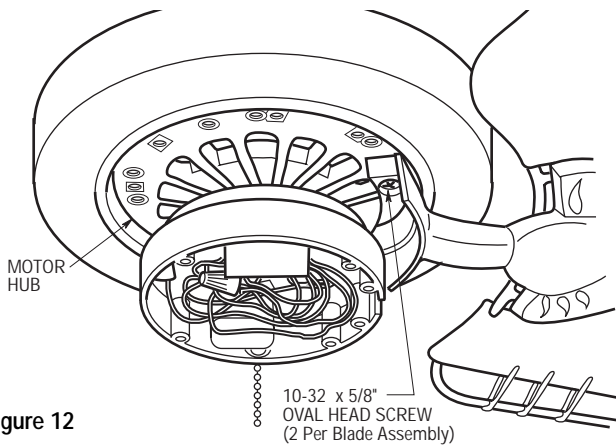

Figure 12
- 3. Attach one blade assembly to the motor hub using two 10-32 x 5/8" oval head screws (supplied) (Figure 12). Do not tighten completely at this time. Install four remaining blade assemblies in the same way. Gently snug all flange screws to the motor hub, working around the hub in a clockwise sequence. Next, securely tighten all flange screws, again working in a clockwise sequence. Failure to follow this procedure could result in fan wobble. This completes the blade installation.